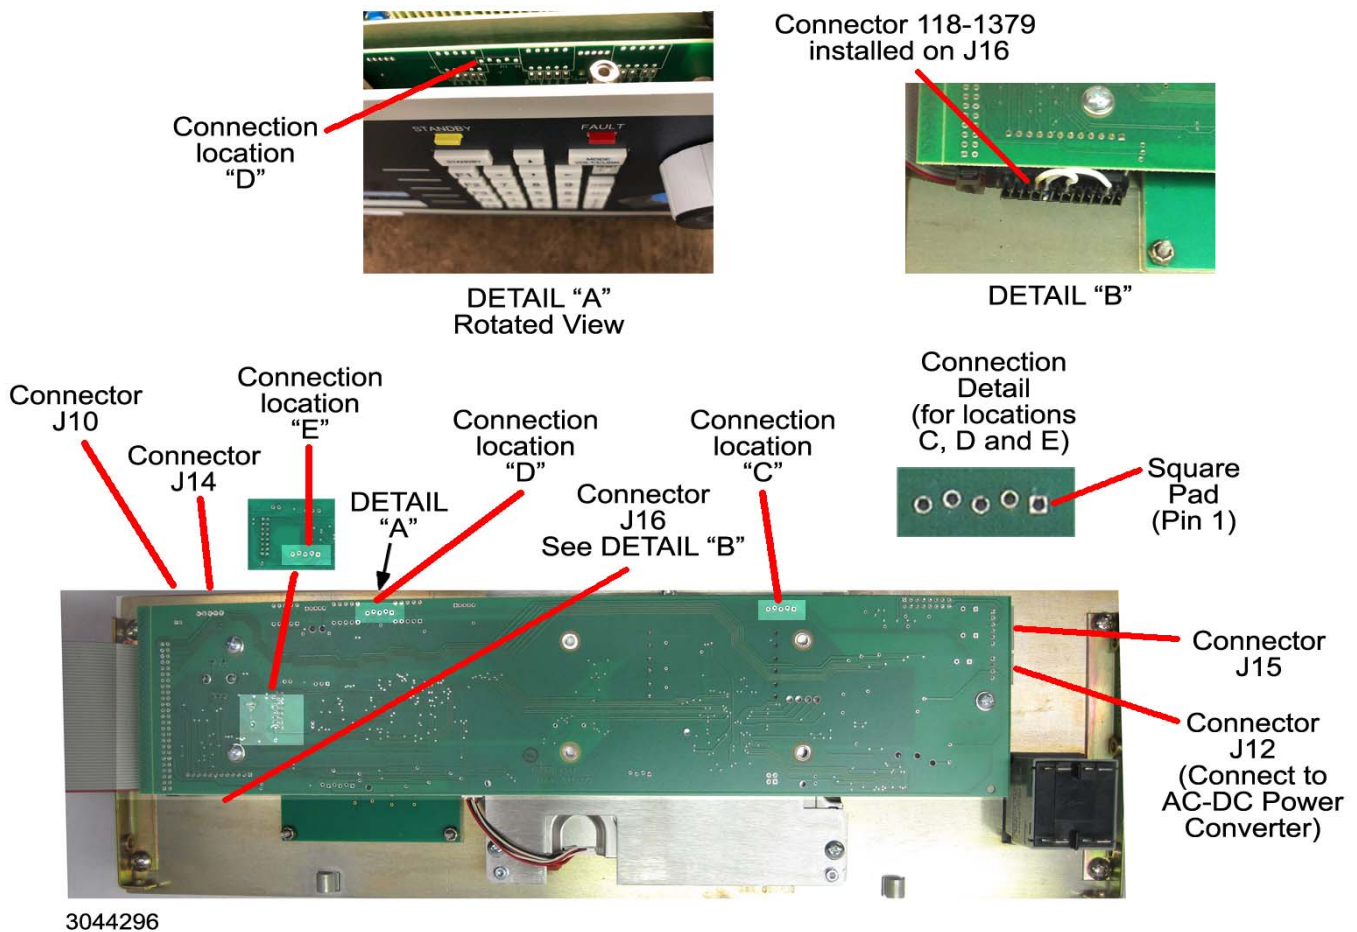

FIGURE 1. A6A1 BOARD (ATTACHED TO FRONT PANEL), COMPONENT LOCATIONS
5. Disconnect one 4-pin and one 6-pin connector (J12, J15, Figure 1). If necessary a screw driver can be used to apply pressure to the front panel to separate the mating connectors.
7. For -MG models, refer to Figure 1 to locate the programming connection for the serial processor firmware update (PAR. 3.7) at either Location "D" or "E" (depending on PWB revision) It is five holes in the Printed Wiring Board that are not in line but slightly joggled. If the programming connection is found at Location "D," skip all remaining steps and proceed to PAR. 3.3.
8. Remove 5-pin connector (J14, Figure 1) from Distribution board A6A1. A screwdriver can be used to apply pressure as needed to separate the mating connectors.
9. Carefully remove the hot melt glue securing connector (J10, Figure 1). Once the glue is removed pull the connector body (not the wires) straight back. A screwdriver can be used to apply pressure as needed to separate the mating connectors.
3. Install the 5-pin header (supplied) into the bottom of the PICKit, then install the other end of the PICKit into Location) "C" shown in Figure 1.
2. Connect the AC-DC Power Converter d-c cable to the 4-pin connector the 4 pin connector as shown in Figure 1. [closest to the circuit breaker mounted on the display panel].
2. Locate the programming connection at Location “C” as shown in Figure 1. It is five holes in the Printed Wiring Board that are not in line but slightly joggled. This allows the male pins of the PICKit Programmer to be firmly retained in the socket.
- Locate the programming connection at either Location “D” or “E” (depending on PWB revision) as shown in Figure 1. It is five holes in the Printed Wiring Board that are not in line but slightly joggled. This allows the male pins of the PICKit Programmer to be firmly retained in the socket.
- Install Connector P/N 118-1379 on J16 of A6A1 board (see Figure 1).
3. Connect two 4-pin connectors (or one 4-pin and one 6-pin connector), and one 5-pin connector attached to twisted pairs to connectors J12, J15 and J14, respectively on Distribution board A6A1 (see Figure 1). The 4-pin connectors can plug into either J12 or J15; holding the wires, line up the pins on an angle, then push until straight and press into place; if necessary a screwdriver can be used to apply enough pressure to front panel to slightly increase separation between front panel and Distribution board A6A1, enough for the connectors to be inserted.
4. Attach the fan connector (J10, Figure 1) by inserting the connector straight into the mating socket.